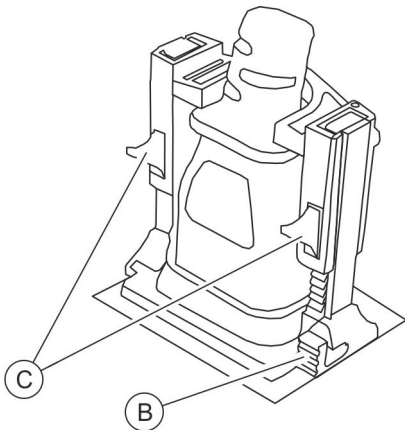

Fig. 17: Attaching the locking clip
3. → Secure the plug in position by pushing the locking clip onto the posts from above (Fig. 17).
To release, the locking clip and/or the posts have to be released using the unlocking lever (Fig. 17/Ⓐ and Ⓑ).